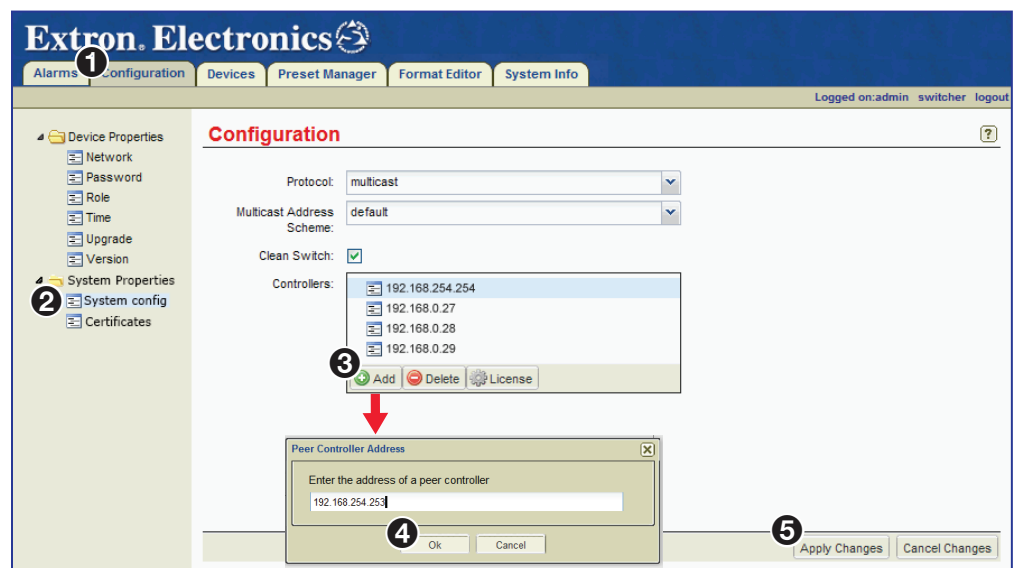

Figure 14. Configuration Page — Adding Controllers to the Controller List
The Configuration page opens (see figure 14, ①).
2. Click the **System config** link (see figure 14, ②).
3. Click **Add** (③). The **Peer Controller Address (Add IP)** dialog box opens.
4. Enter the IP address of this VNM EC 200 and click **OK** (④).